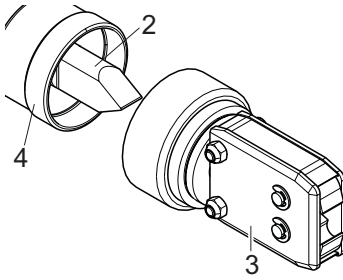
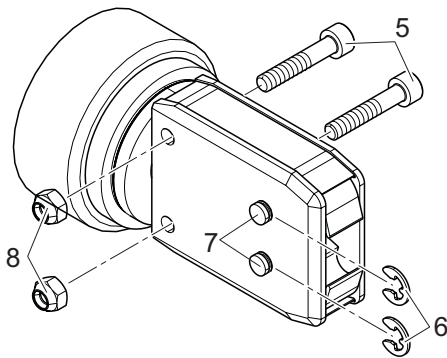
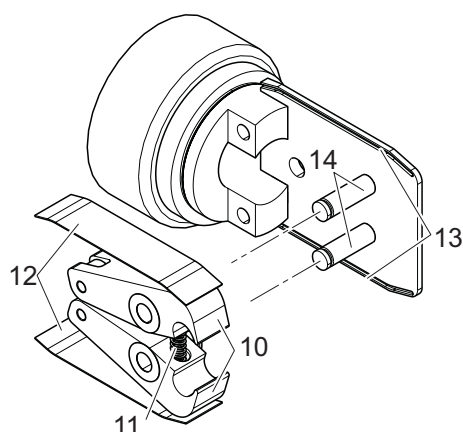

Fig. 26: Disconnect the pincer head
Fig. 27: Dismantling the pincer head
Fig. 29: *Fitting the pincer jaws*
3. Disconnect the pincer head (Fig. 26/3) from the clamp pincer (Fig. 26/4).
The plunger (Fig. 26/2) stays in the clamp pincer (Fig. 26/4).
4. Remove two lock pin (Fig. 27/6) on pincer head (Fig. 26/3).
Do not push back pin (Fig. 27/7)!
5. Unscrew two hexagon nuts (Fig. 27/8) from the hexagon bolts (Fig. 27/5).
7. Remove the compression spring (*Fig. 29/11*), cover plate (*Fig. 29/12*) and pincer jaws (*Fig. 29/10*).
8. Grease and assemble replacement pincer jaws (*Fig. 29/10*) and compressions spring (*Fig. 29/11*) from the pincer jaw replacement kit and pin (*Fig. 29/14*) with special lubricant RENOLIT LX 2.
9. Reassemble in reverse order, using new lock washers (*Fig. 27/6*).
10. Check mobility of pincer jaws (*Fig. 29/10*).
The plunger (*Fig. 26/2*) must lie between the two pincer jaws (*Fig. 29/10*).